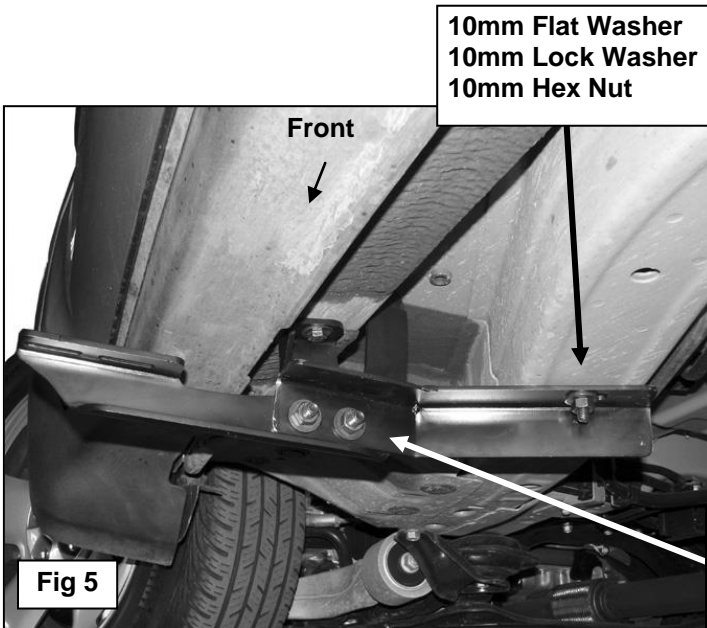

Fig 5
4. Select (1) 10mm Bolt Plate, **(Figure 3)**. Insert the Bolt Plate into the factory hole in the bottom of the frame channel, **(Figure 4)**. Rotate the Bolt Plate clock-wise 90-degrees or until it stops turning. **NOTE:** To help determine the correct inner mounting hole on the frame to use, hold the Support Bracket up to the back of the Front Bracket with the inner end lined up with the hole in the bottom of the frame channel, **(Figure 5)**.
5. Bolt the driver side Support Bracket to the back of the front Mounting Bracket with (2) 10mm x 35mm Hex Bolts, (4) 10mm Flat Washers, (2) 10mm Lock Washers and (2) 10mm Hex Nuts, **(Figure 5)**. Next, hang the inner end of the Support Bracket from the previously installed Bolt Plate using (1) 10mm Flat Washer, (1) 10mm Lock Washer and (1) Hex Nut. Do not fully tighten hardware at this time.